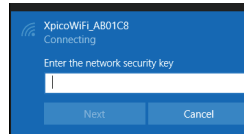

Figure 16: Network Security Password
4. After clicking Connect, enter “xpicowifi” in lower case as the network security password. Click on Next button to complete the connection. See Figure 16.